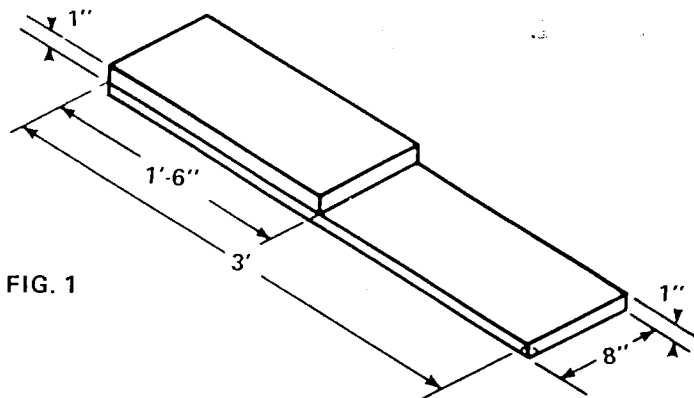

FIG. 1
- Two step leveling ramp (FIG. 1)